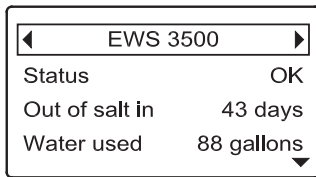

FIG. 113
1. Press the remote’s LEFT (◀) or RIGHT (▶) buttons to manually advance to the **EWS 3500** status screen (See Figure 113).